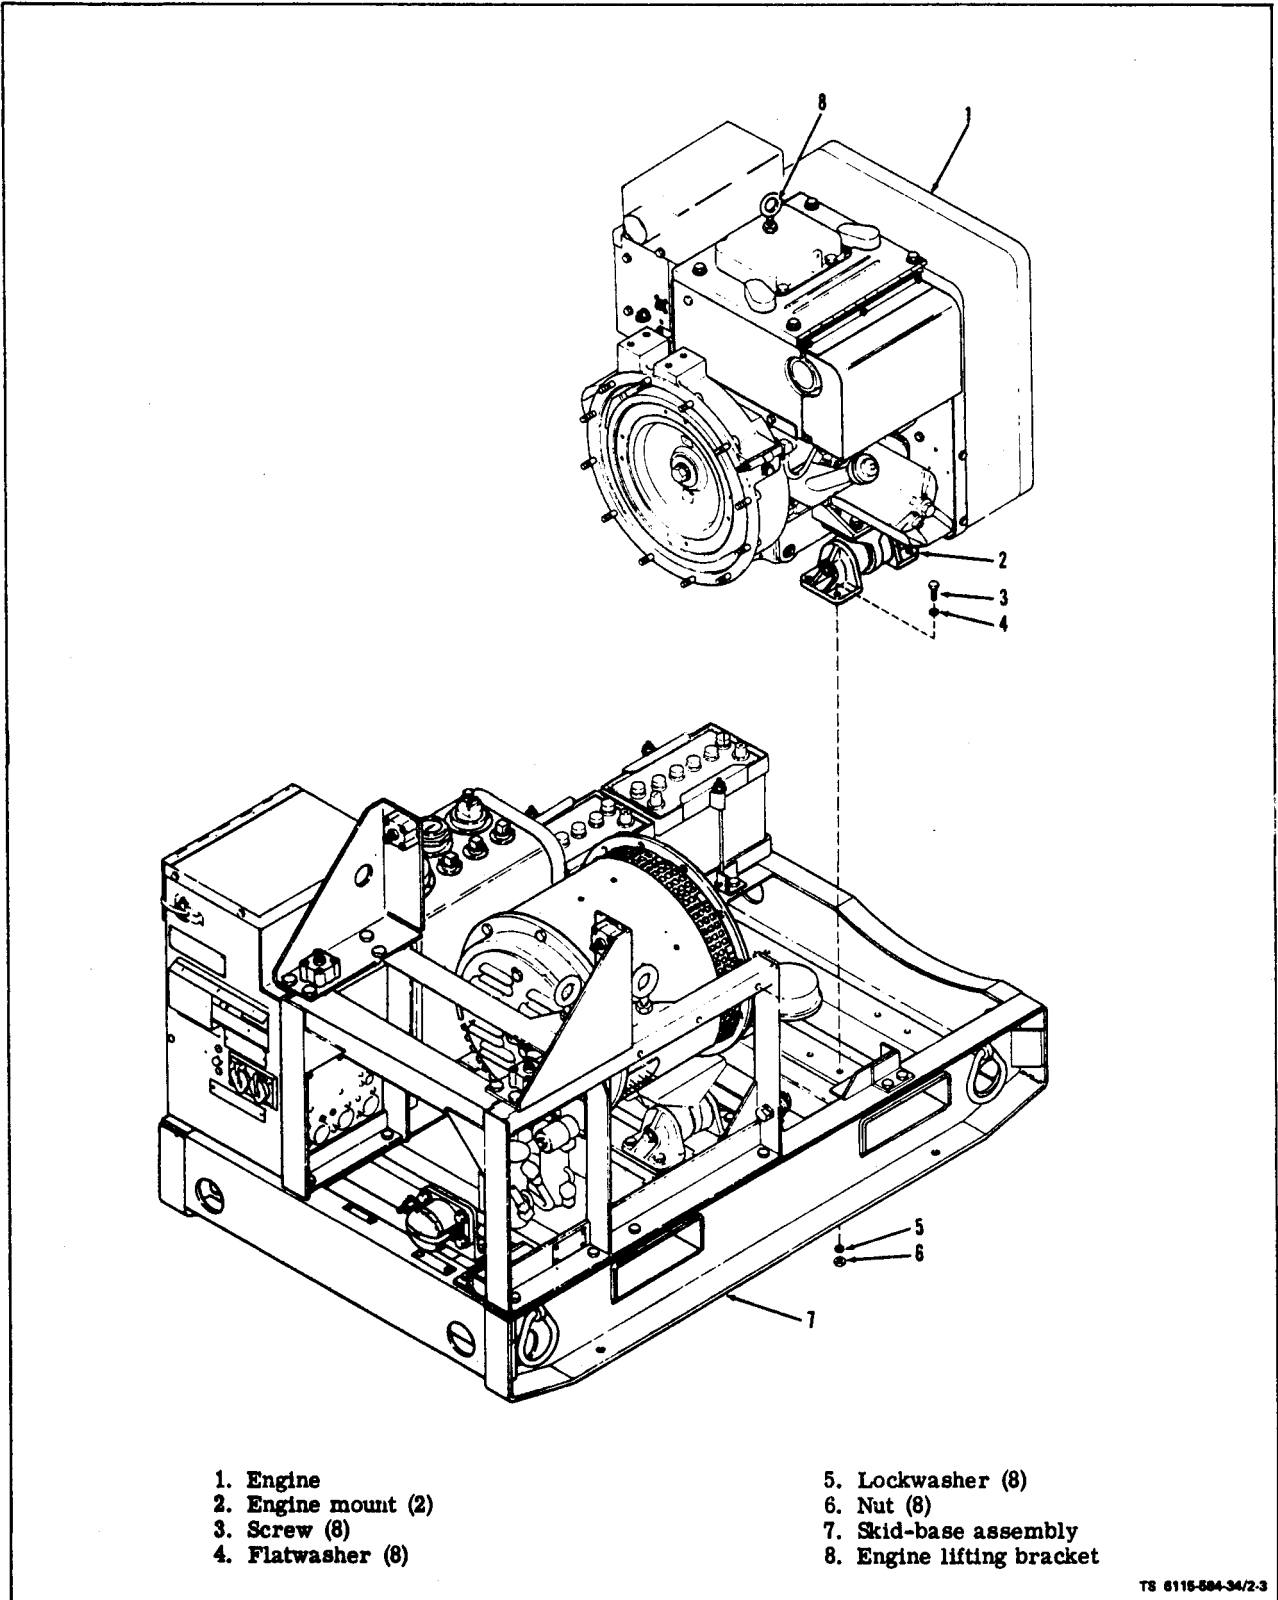

Figure 2-3. Lifting Engine
(11) Remove four screws (3, figure 2-3), lockwashers (5), flatwashers (4) and nuts (6) attaching each engine mount (2) to skid-base (7). Lift engine free of Generator Set.
(2) Lift engine generator assembly into place on skid-base and install screws (3, figure 2-3), lockwashers (5), flatwashers (4) and nuts (6) to attach engine mounts to skid-base.
(1) This installation procedure is to be followed if the engine has been removed and the generator has been left mounted on the skid-base.
(2) Lift engine into place on skid-base using engine lifting bracket (8, figure 2-3). Leave about a 6 inch space between the generator and the engine.